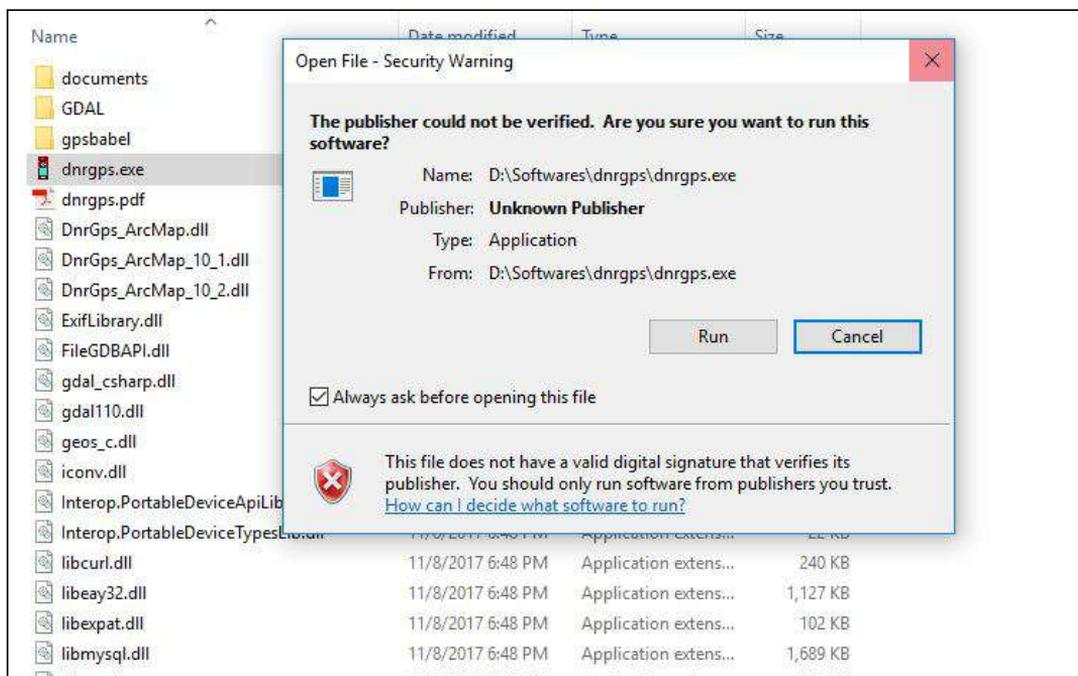

Figure 3a
**Steps to upload GIS data in GPS (see figure 3a to 3i).**
a) Open DNRGPS software from the file directory, see figure 3a.